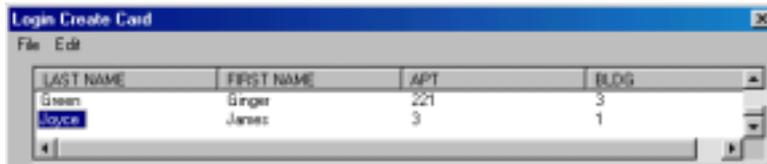

Figure 4.15 Selecting a User to be Cloned
2. Select the user to be cloned by clicking on their name in the User List Window (Figure 4.15).